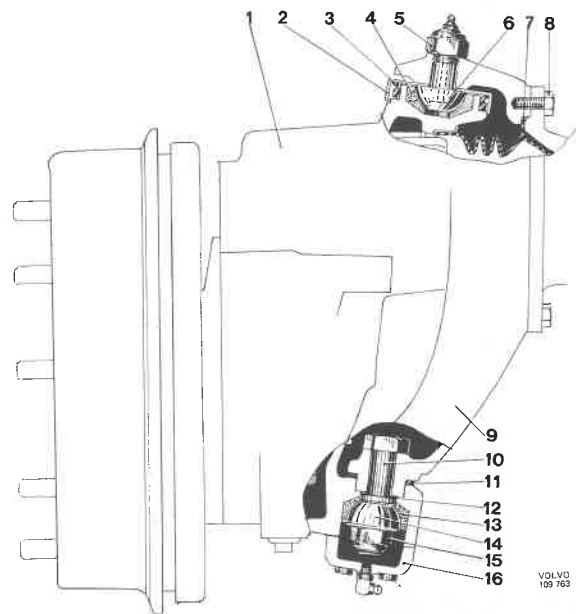

Fig. 63-1. Steering pins
The ends of the front axle are provided with spherical steering knuckle supports (9, Fig. 63-1) on which the wheel carriers (1) are suspended in steering pins (6 and 14). The steering pins have ball shells (6 and 14) which are journalled in bushings (4 and 13) of synthetic material. The steering pins should be lubricated with grease of a quality specified according to the lubricating instructions. When being installed, the lower steering pin should be fitted with shims (12) so that there is pre-loading on the steering pins.
3. Remove the lubricator on the cover (16, Fig. 63-1).
3. Remove the cover (16, Fig. 63-1) under the lower steering pin and unscrew the nut (15) holding the pin together. Pull out the bolt (10) and then the ball shell (14), also the shims (12). Take care of the shims.
1. Clean all parts thoroughly. Clean thoroughly the surfaces between the cover (16) and wheel carrier, and between the steering knuckle support and front axle.
2. Check the ball shells (6 and 14, Fig. 63-1) and the surface on the sealing washer (2) for the sealing ring. Replace worn parts.